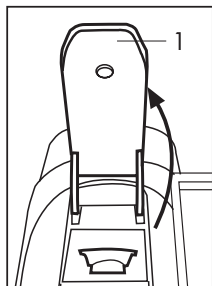
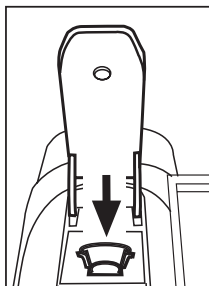

Fig. 8
Fig. 9
- Fully lift the control lever (1) **(Fig. 8)** and insert a capsule into the space provided. **(Fig. 9)**